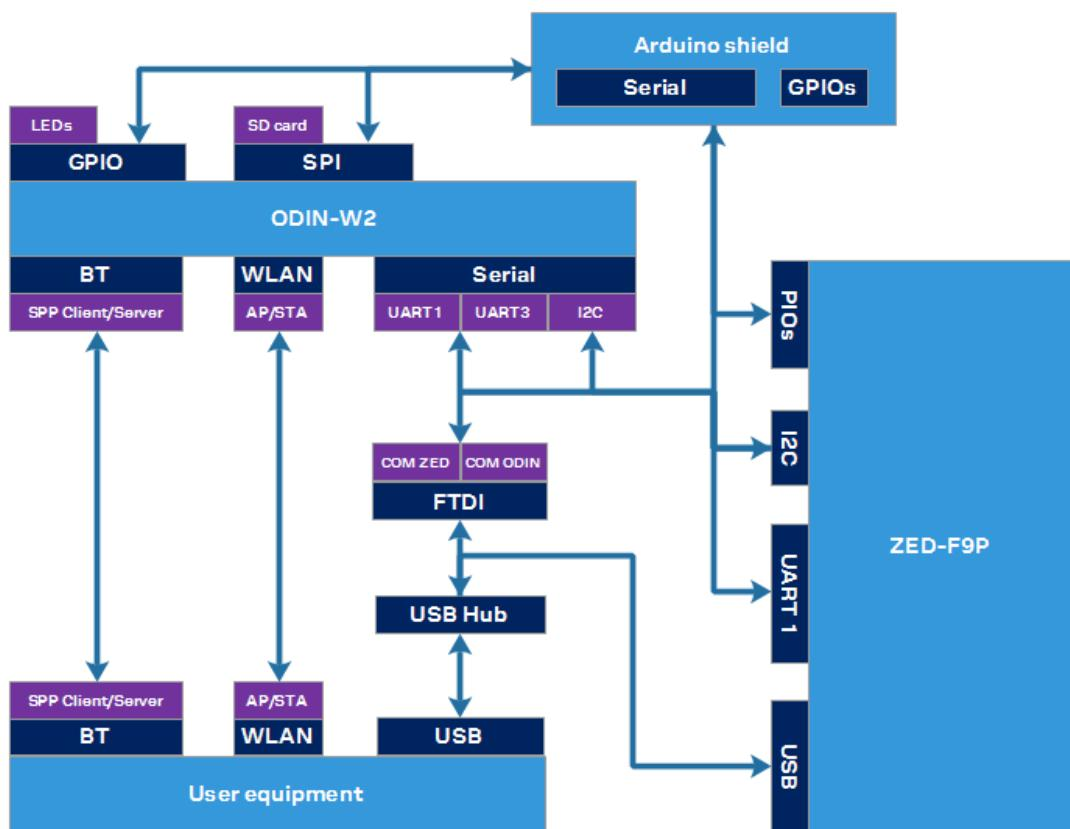

Figure 4: C099-F9P block diagram
- If everything is correctly installed, the receiver should begin operation in its default state. The Figure 4 below shows a typical u-center view with active satellite signal levels etc. The Time Pulse LED on the C099-F9P board will blink in blue color.
The block diagram in Figure 4 shows the logical signal flow between the individual parts.